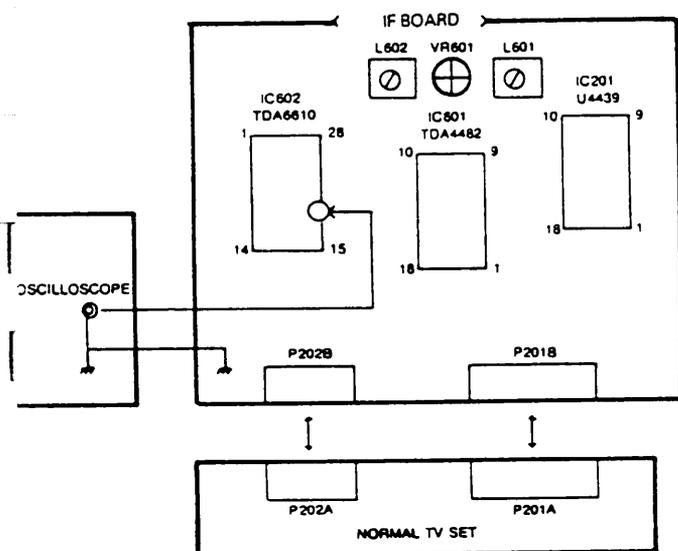

Fig 10. Connection Diagram of the Instruments
- 1) Connect the oscilloscope to the pin16 of IC602. (Fig. 10)